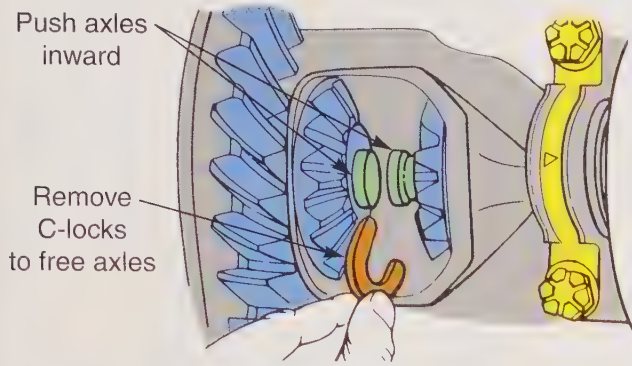

Figure 17-7. Push the axles inward and remove the C-locks. (Ford)
7. Push the axle in toward the vehicle. This will allow the C-lock to be removed from the axle. See **Figure 17-7**. In many cases, the C-lock will fall out of position once the shaft is pushed inward.